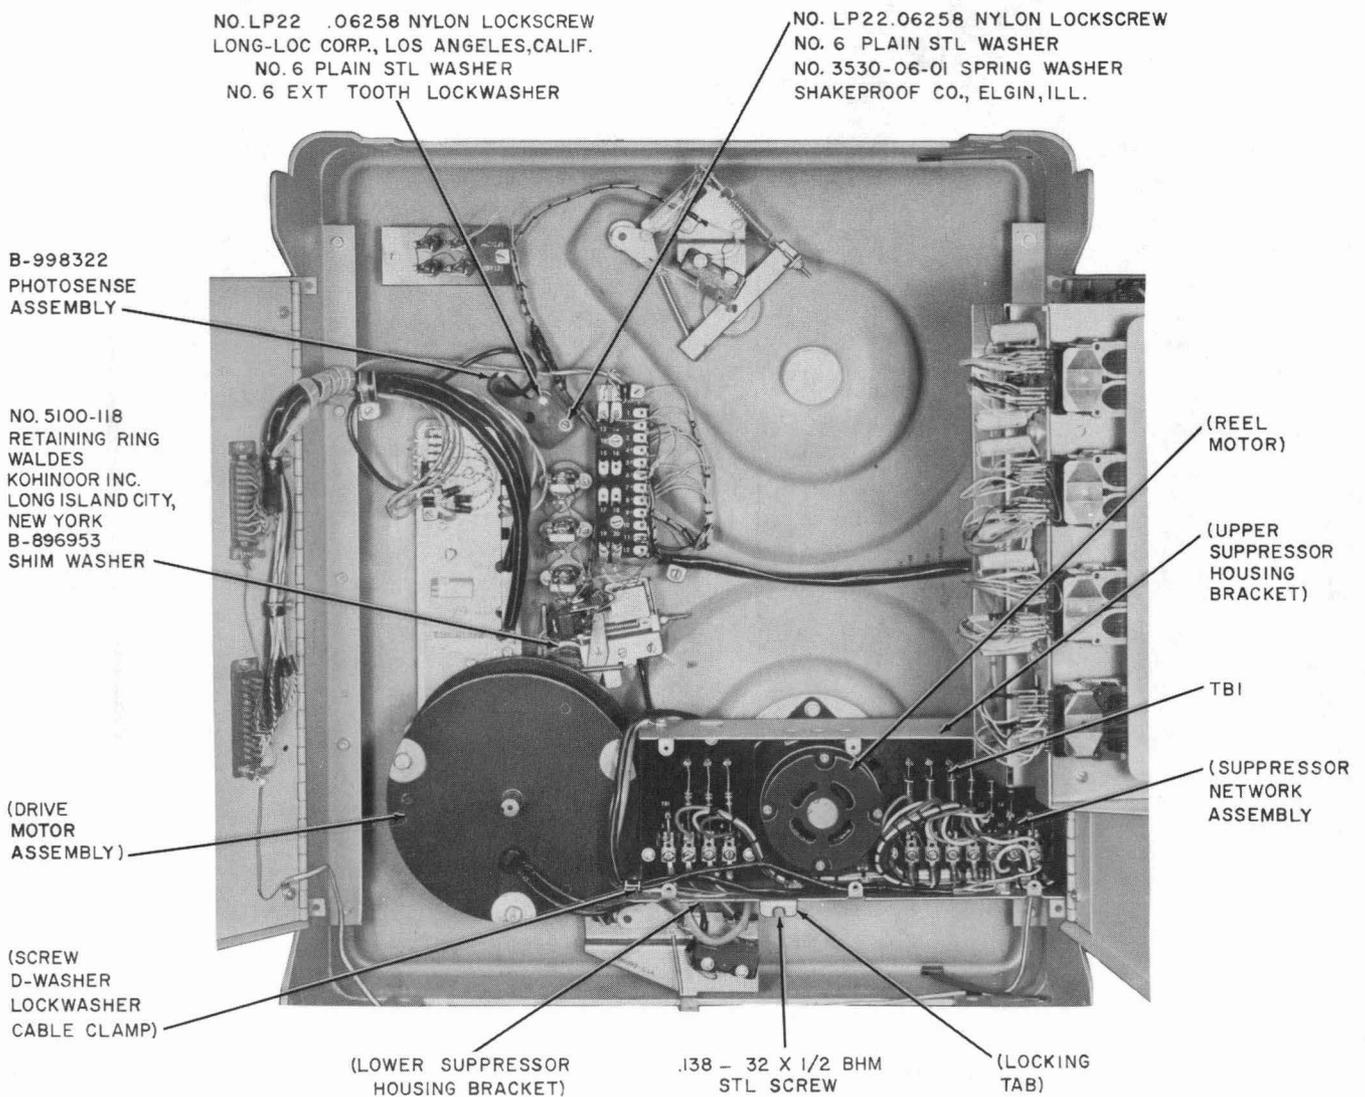

Fig. 5—Recorder Assembly—Rear Internal View
- (1) To gain access to the drive motor assembly, use the 4-inch E screwdriver to remove the six screws holding the suppressor cover (Fig. 4) and remove the cover. Disconnect and tag the seven leads of drive motor from terminals 5 through 11 of TB1 (Fig. 5). Remove the screw, washer, and cable clamp from the lower suppressor housing bracket; remove the screw holding the locking tab; and swing the suppressor network assembly out as shown in Fig. 6.
- (2) Free the end of pinch roller pressure spring at the end which hooks into the spade bolt. This can be accomplished by grasping the flat end of the spade bolt with P long-nose pliers and tensioning the spring toward the spade bolt; then slip the screw retainer clip outward and away from the bracket which it engages. Do not alter the position of the nylon locknut during this procedure. Also disengage the hook of the pinch roller pressure spring from hole in the pinch roller arm.
- (3) Using the KS-6257 wrench, unscrew the three motor mounting screws while supporting drive motor assembly; then carefully withdraw the motor straight back until the pinch roller assembly has cleared the opening in the transport casting.
- (4) Before installing drive motor assembly, be sure that lockwashers are under the head of the three motor mounting screws. Position drive motor assembly with electrical leads toward bottom and carefully guide the pinch roller assembly through opening in transport casting while firmly supporting the motor; then, using the KS-6257 wrench, secure drive motor assembly to transport casting with the three motor mounting screws.
- (5) Engage one end of the pinch roller pressure spring with pinch roller arm. Hook the other end of spring into the eye of spade bolt. Using the P long-nose pliers, grasp the flat end of spade bolt and tension the spring until it is
(6) Swing suppressor network assembly into position as shown in Fig. 5, and secure with screw in locking tab, using the 4-inch E screwdriver. Connect leads of drive motor to terminals of TB1 as follows:
E screwdriver to remove the six screws, lockwashers, and plain washers holding the suppressor cover (Fig. 4) and remove the cover. Disconnect and tag the four leads of reel motor from terminals 1, 2, 3, and 4 of TB1 (Fig. 5). Remove the screw, washers, and cable clamp from the lower suppressor housing bracket. Remove the screw holding the locking tab, and swing the suppressor network assembly out as shown in Fig. 6.
position shown in Fig. 5, and secure with screw in locking tab, using the 4-inch E screwdriver. Connect leads from motor to TB1 as follows:
ring (Fig. 5) from pinch roller knob; remove the knob from front of tape transport (Fig. 8).